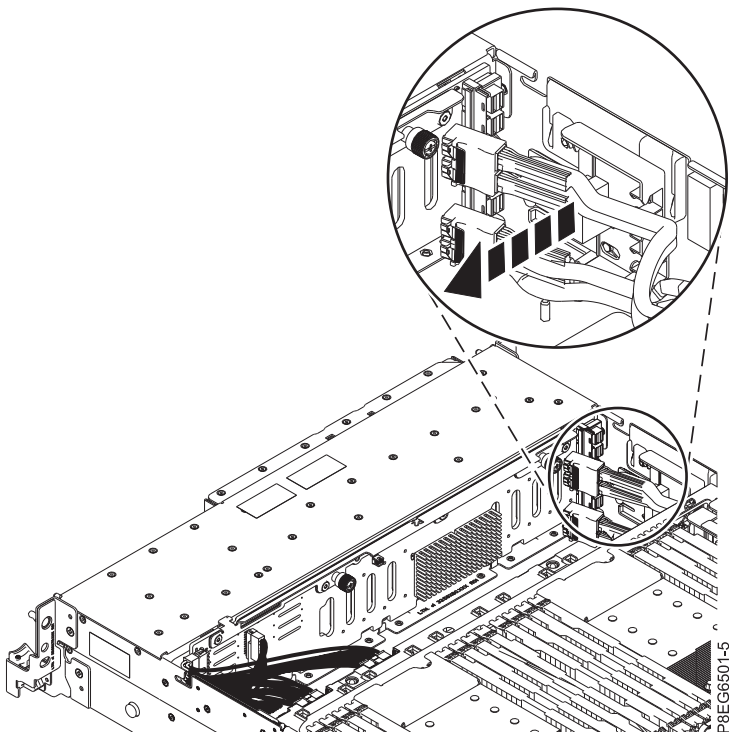

Figure 107. Unseating the SAS cables
4. Unseat the front SAS cables from the cable guide on the side of the system chassis. See Figure 107.